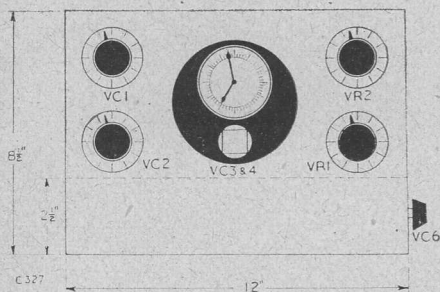

Fig. 4. Panel arrangement and dimensions.
A glance at Fig. 4 shows the symmetrical arrangement of the panel controls. This has been made possible by (1) mounting the auxiliary control VC6 at the side of the chassis, and (2) drilling the mounting bracket for VC1 with a  $\frac{5}{16}$ " hole so as to allow the connecting rod spindle to VC2 to pass through it.